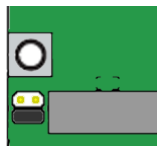
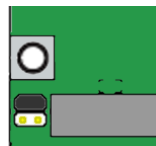

Figure 3. Emergency stop switch Enabled
Figure 4. Emergency stop switch Disabled
**JP1** - Enable/Disable Emergency stop switch jumper, see Figure 3 and Figure 4.
Emergency stop switch is used for unconditional stepping motor power down. It can stop stepper motor forcedly if it is impossible to do by software in consequence of program error. This sensor is connected directly to power down circuit of Power driver. Emergency stop switch must be a dry break contact. There is no possibility to control this switch by software, only monitoring is possible. If Emergency stop switch is not used, set emergency stop jumper in Off position (see Figure 4), otherwise in On position (see Figure 3).
**Note:** If Emergency stop switch is not used but emergency stop jumper set in On position then stepper motor will be de-energized and **Ext. off** indicator will lighting up (see. 5.2.5). For correct working set the jumper in Off position (see Figure 4).